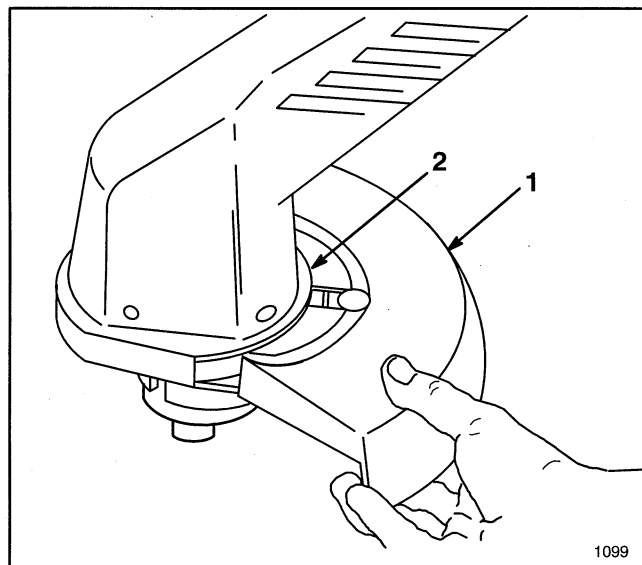

Figure 7
1. Fit grass shield into long, curved slot in motor housing (Fig. 7).